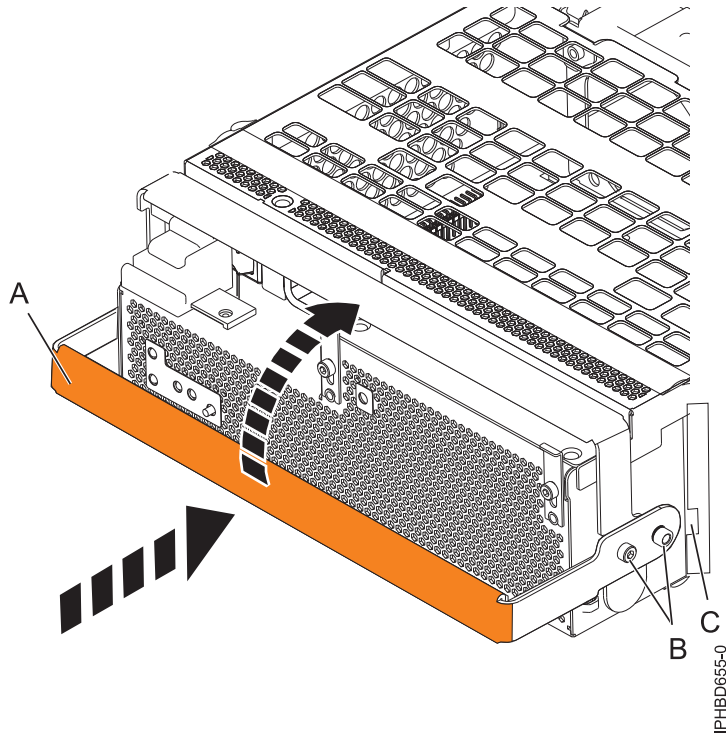

Figure 138. Replacing a power supply
10. To replace the power supply, with the locking handle (A) in the open position, push the power supply into the expansion unit as shown in Figure 138 on page 162.
11. Close the locking handle (A) until the power supply locks into position.